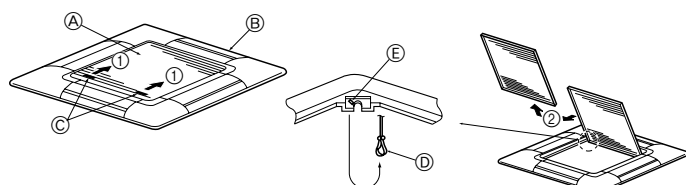

Fig. 10-3
10.2.1. Removing the intake grille (Fig. 10-3)
- Slide the levers in the direction indicated by the arrow ① to open the intake grille.
- With the intake grille in the "open" position, remove the hinge of the intake grille from the grille as indicated by the arrow ②.